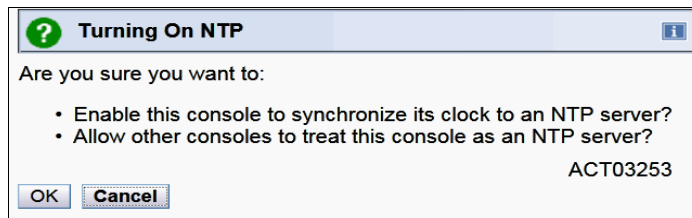

Figure 8-10 Turning On NTP server
- In the Turning On NTP window (see Figure 8-10), confirm that you want to enable the HMC as time server. Click **OK**.